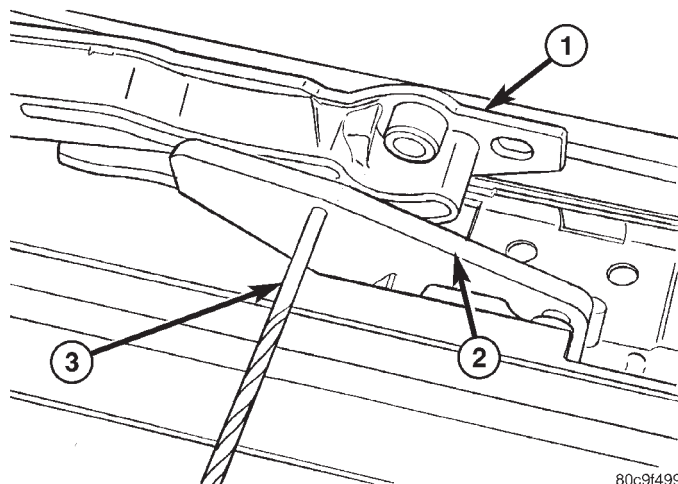
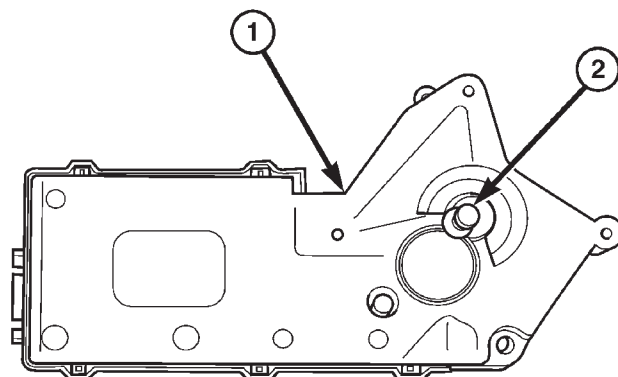

Fig. 13 LIFT ARM POSITIONING
Fig. 14 MODULE TIMING PIN
- (1) Check glass assembly position. Adjust to full closed position. Insert pin into holes in lift arm assembly to check position (Fig. 13).
- (2) Set new electronic module in position on top side of motor mounting bracket engaging drive cables with pinion gear in electronics module.
- (3) Install one screw to attach electronics module to motor bracket. Tighten screw to 3 N·m (27 in. lbs.) torque.
- (4) Install motor assembly to motor bracket and electronics module with three screws. Tighten screw to 1.75 N·m (15.5 in. lbs.) torque.
- (5) Remove the new module's timing pin and discard. (Fig. 14)